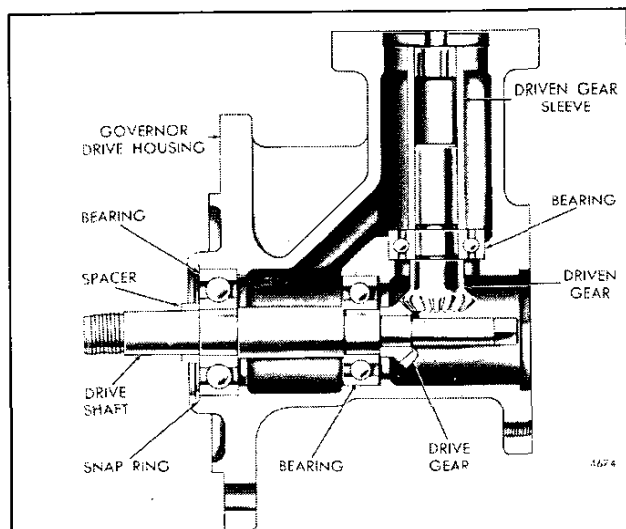

Fig. 1 - Hydraulic Governor Drive Assembly
22. If removed, thread a lock nut on the load limit screw then thread it approximately half-way in the governor cover (Fig. 1).
The governor drive assembly (Fig. 1) consists of a horizontal drive shaft and bevel drive gear and a vertical driven sleeve and bevel driven gear mounted on ball bearings and contained in the governor drive housing.
Refer to Figs. 1 and 3 and proceed as follows: